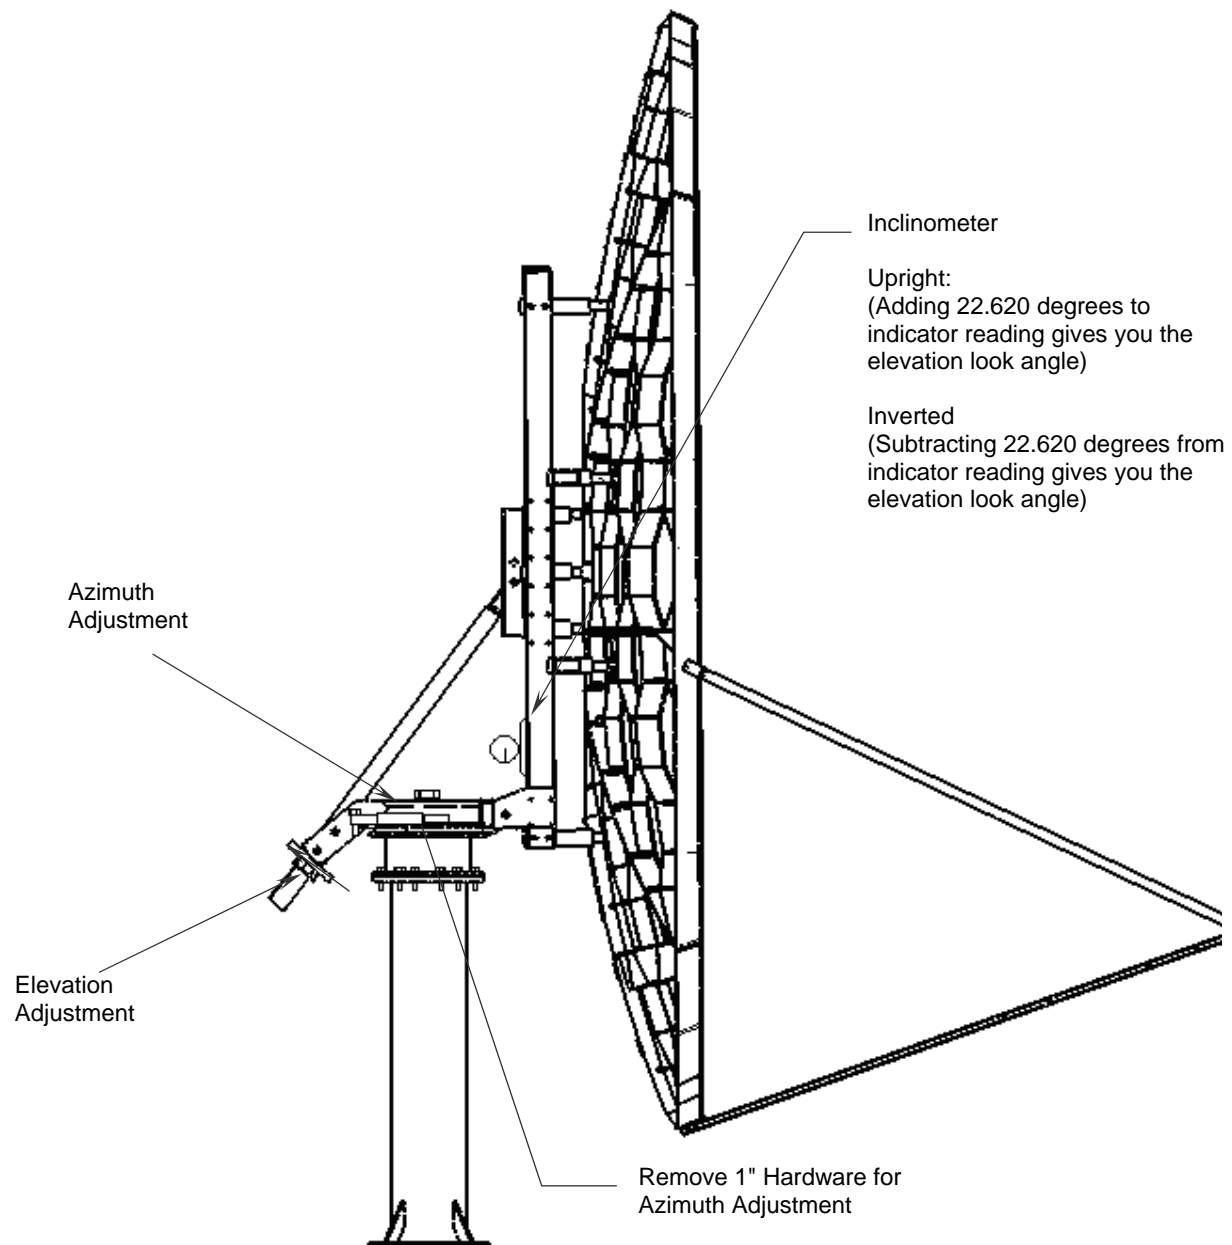

Figure 34: Antenna Alignment Hardware Overview
2. After the correct elevation angle is set, rotate the antenna in the azimuth plane by loosening the 2" nut on top of the positioner and removing the 1" hardware (4 places) in the positioner plate, refer to Figure 34, Antenna Alignment Hardware Overview.